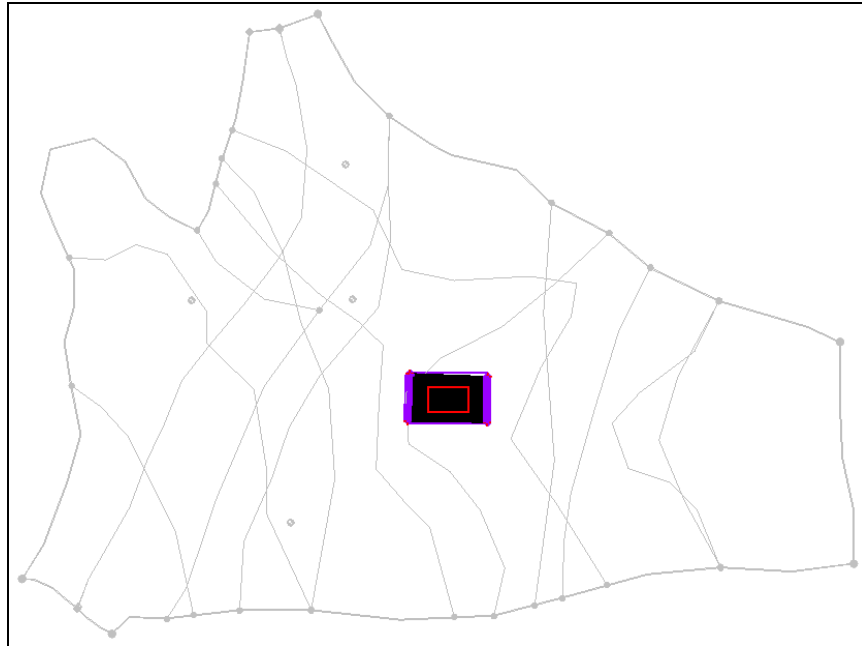

Figure 8 After the scatter point set is turned off
3. Turn off “ 2D Scatter Data” folder to make it easier to see the other information (Figure 8).